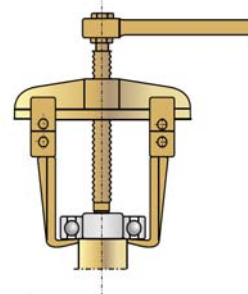

Figure 11.1: Device to withdraw bearing
5. Remove the bearing attached in the back shaft tip with the help of a bearing withdrawing device (Figure 11.1). By removing the bearing, it shall be discarded.
5. Remove the exciter rotor according to item 13.2.2 of this document;
6. Remove the bearing attached to the back shaft tip with the help of a bearing extractor device, illustrated in Figure 11.1. By removing the bearing, it shall be discarded;